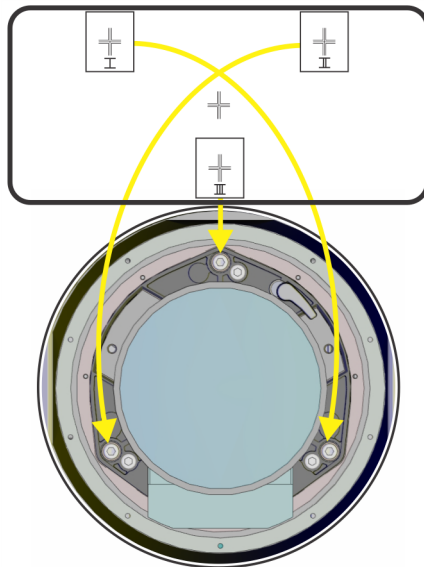

FIGURE 2-3 CROSS-HAIR PATTERN
3. If boresight is required, refer to *Figure 2-3 Cross-Hair Pattern* to understand how the adjustment screws on the lens mount affect the corresponding cross-hairs on the test pattern.